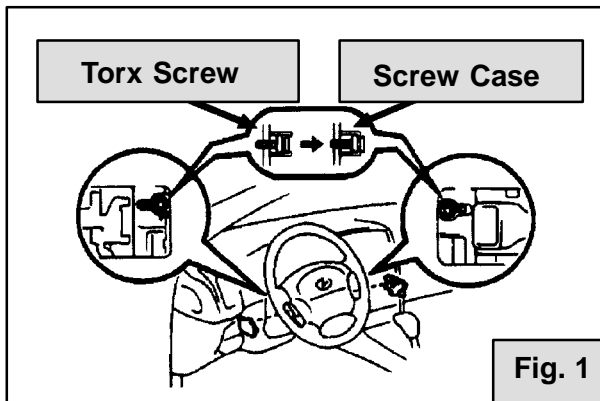

Fig. 1
1. Determine the Diagnostic Tester serial number located on the back of the tester (see Figure 1).
- b. Using a torx socket wrench, loosen the torx screws until the groove along the screw circumference catches on the screw case. SST 09042-00010. (See Fig. 1)